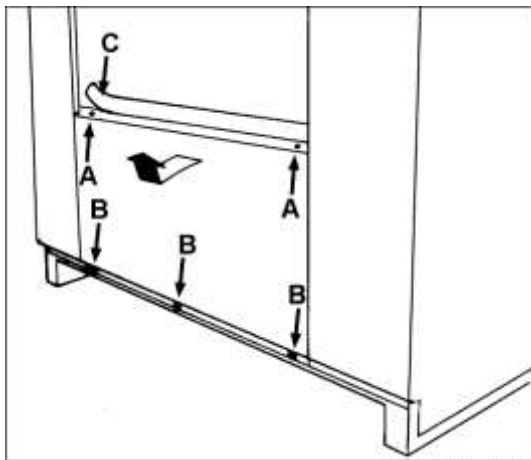

Fig. 2.7
- Remove the screws (**Fig. 2.7/A**) holding the lower front cover and loosen the three screws (**Fig. 2.7/B**) holding the base of the chassis.
- Separate the rubber profile (**Fig. 2.7/C**) at the two small side guards and remove the front cover (**Fig. 2.7**).